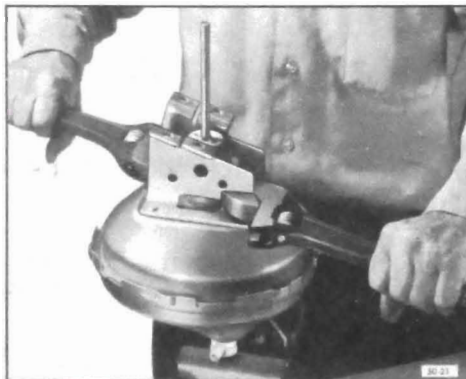

Figure 50-67--Separating Power
2. Remove boot and place two adjustable wrenches at least 10" in length, so that each wrench will grip on a mounting bracket (43-44000) or attach wrench J-9504 to studs (45-46-48-49000). Rotate rear housing counterclockwise to unlocked position. See Figure 50-67 or 68.